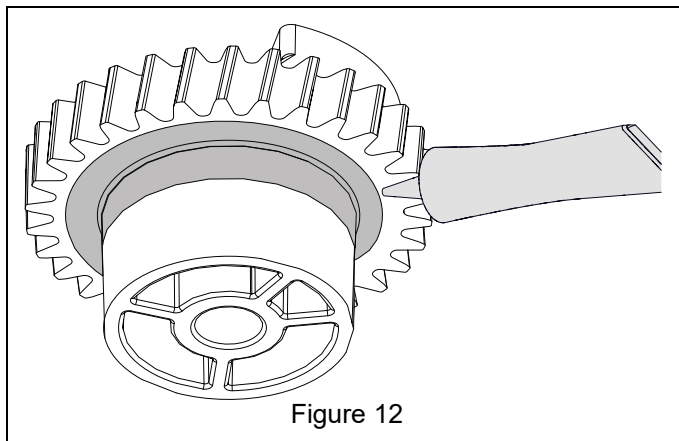

Figure 12
7. Apply light coat of lithium grease to base of helical gear in area shown. See Figure 12.